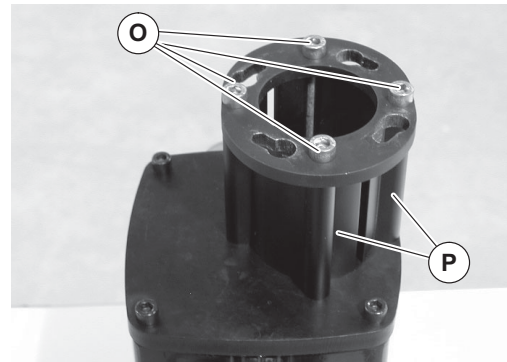

Figure 9
5. Remove four (4) screws (Figure 9, item O) and detach coupling covers (P).
10. Install coupling covers (Figure 9, item P) with four (4) screws (O) and tighten to 110 in-lbs (12 N-m).